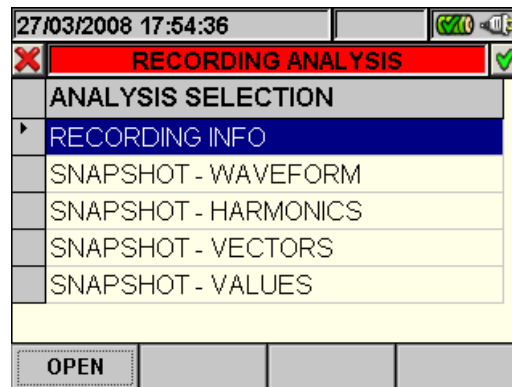

Fig. 114: Recording analysis (Istant-type data)
2. Press the **ESC** key (or the smart icon  on the display) to exit the function and go back to the "Recording analysis" page (Fig. 114).
- The **ESC** key (or the smart icon  on the display) to exit the function and go back to the "Recording analysis" page (Fig. 114).
- The **ESC** key (or the smart icon  on the display) to exit the function and go back to the "Recording analysis" page (Fig. 114)